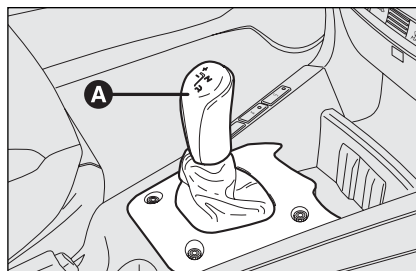

fig. 8
Gearshifting takes place through the control lever **A**-fig. 8, which is of the floating type with a “single central stable position”. It is possible to request an increase/decrease of the gear ratio engaged and/or reverse gear engagement (R) or neutral (N).